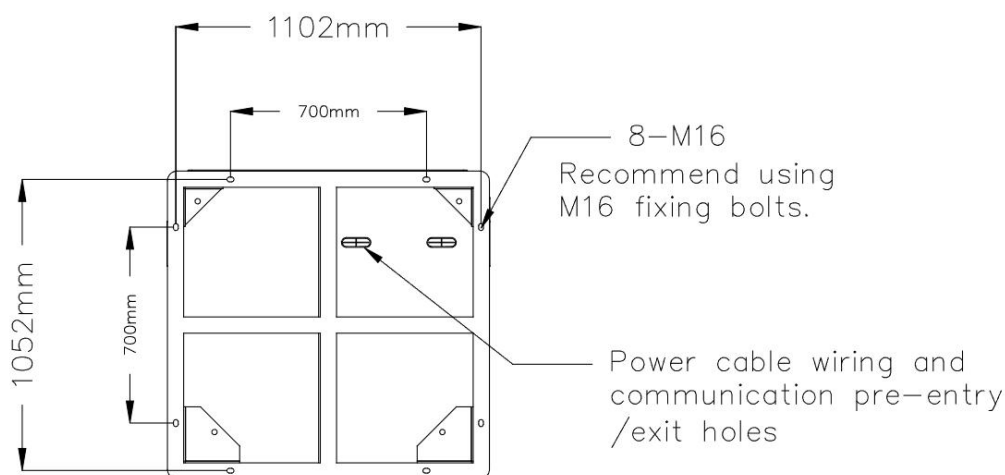

Figure 4.5-1
1. Select the equipment installation location in advance according to the product size, and do a good job of positioning and fixing; the recommended foundation is shown in Figure 4.5-1.